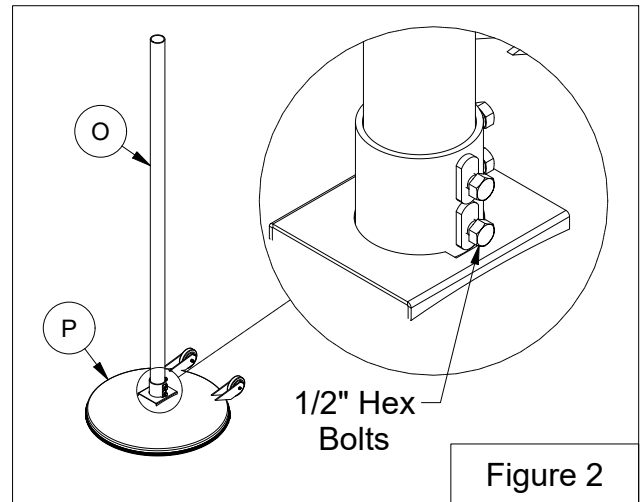

Figure 2
- 1b. Remove *Weighted Movable Base* (P) from the pallet and place on the floor with the powder coated side up.
- 2b. Remove the four 1/2" hex bolts from the pole receiver socket on the *Weighted Movable Base* (P). See Figure 2.
- 3b. Insert the 3 1/2" Diameter Pole (O) into the receiver socket and reinstall the 1/2" hex bolts. Tighten all four 1/2" hex bolts against the 3 1/2" Diameter Pole (O).